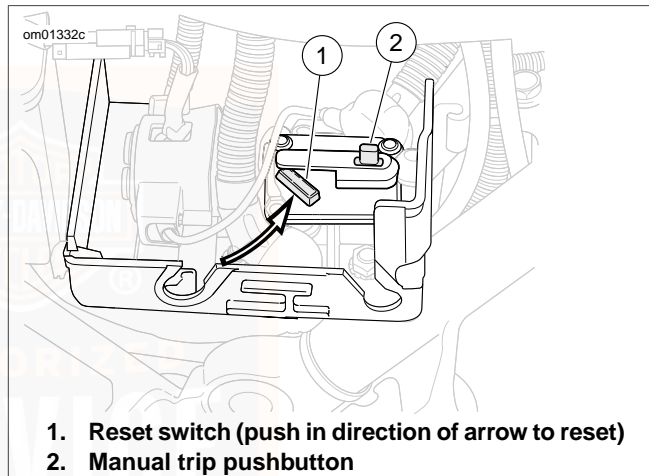

Figure 72. Reverse Motor Circuit Breaker
See Figure 72. The circuit breaker is located in the electrical caddy. This manually resettable circuit breaker has a red trip pushbutton (2) and a reset switch (1). To manually trip the circuit breaker, push down on the trip pushbutton (which causes the reset switch to extend out).